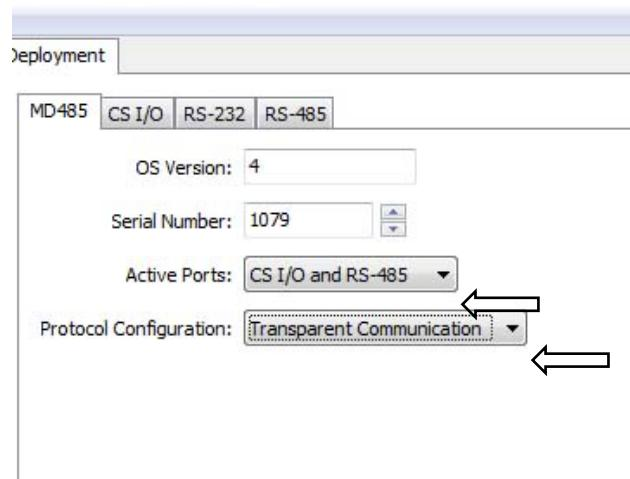

FIGURE 8-8. MD485 Deployment tab
4. Click the **MD485** tab. Select *CS I/O* and *RS-485* in the **Active Ports** box. Select *Transparent Communication* in the **Protocol** box (FIGURE 8-8).